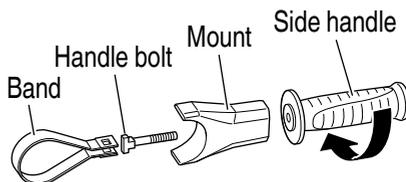

Fig. 1
- (1) Turn the side handle to dismantle. (**Fig. 1**)